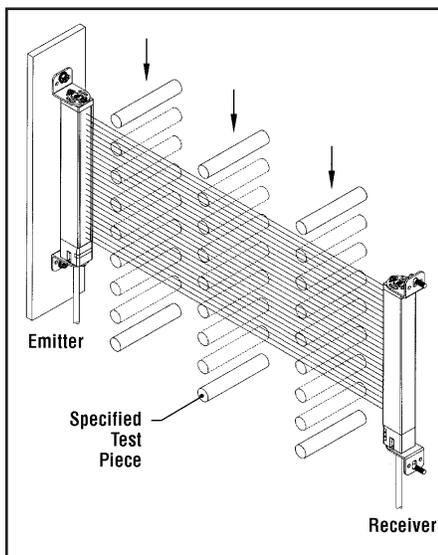

Figure 30. Use of test piece in trip test
- b) With the guarded machine at rest, slowly pass the appropriate specified test piece downward through the defined area at three points, taking care to hold the test piece perpendicular to the defined area: close to the receiver column, close to the emitter column, and midway between the emitter and receiver columns (Figure 30). In each case, the red status indicator should come ON and remain ON for as long as the test piece is within the defined area. When the test piece is withdrawn from the defined area, the green status indicator should come ON. If the green indicator comes ON at any time when the test piece is within the defined area, check for reflective surfaces, or unguarded areas created by use of fixed blanking (see Warnings, page 49). **Do not continue until the situation is corrected.** (See section 3.2.2 and 3.2.4.)
- b) With the guarded machine at rest, pass the appropriate specified test piece downward through the defined area at three points, perpendicular to the defined area: close to the receiver column, close to the emitter column, and midway between the emitter and receiver columns (see Figure 30). In each case, the red indicator must come ON and remain ON for as long as the test piece is within the defined area. When the test piece is removed from the defined area, the green status indicator should come ON (if blanking is ON, the green status indicator will be flashing). If the green status indicator comes ON at any time when the test piece is within the defined area, check for reflective surfaces, or unguarded areas created by the use of fixed blanking (see Warnings, page 49). **Do not continue until the situation is corrected.** (See Section 3.2.2 and 3.2.4.)